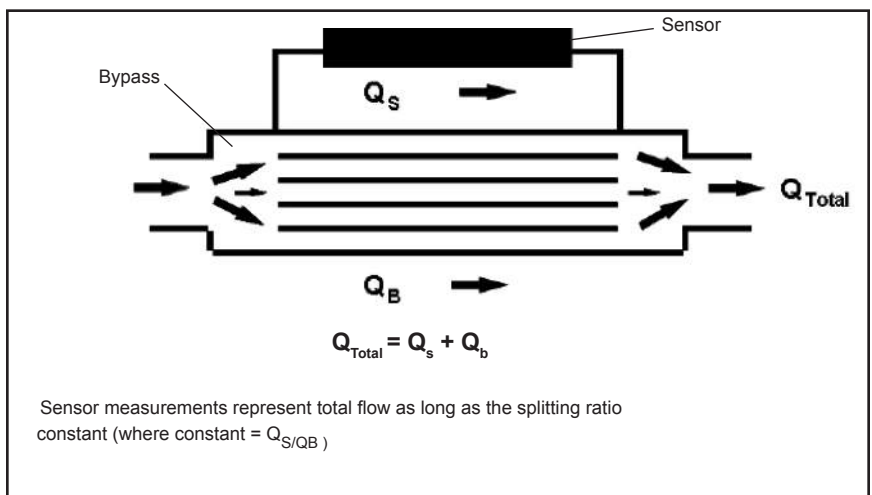
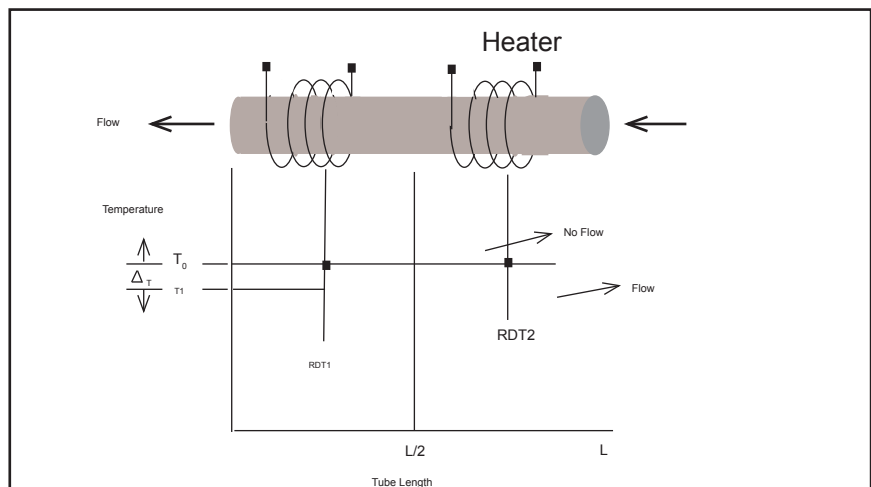

Figure 2-2 Bypass Assembly Functional Diagram
Figure 2-5 Thermal Sensor Operation
Bypass Assembly (2)	Restricts the flow of gas through the MFC. Refer to Figure 2-2, Bypass Assembly Functional Diagram, on p. 1-6 for further details.
Parallel Sensor (4)	Measures the gas temperature across the sensor and feeds this information to the PCB assembly. Refer to Figure 2-2, Bypass Assembly Functional Diagram, on p. 1-6 and to Figure 2-5, Thermal Sensor Operation, on p. <?> for further details.
Each MFC utilizes a thermal sensor tube to measure the mass flow rate ( $m$ ) of gas passing through the MFC. Each gas molecule has a specific ability to pick up heat. This property ( $C_p$ ) directly relates to mass and physical structure of the molecule. Gas is heated in a tube and resistive temperature devices measure the temperature gradient along the tube. This process is described in the following formula and shown in Figure 2-5, Thermal Sensor Operation, below.